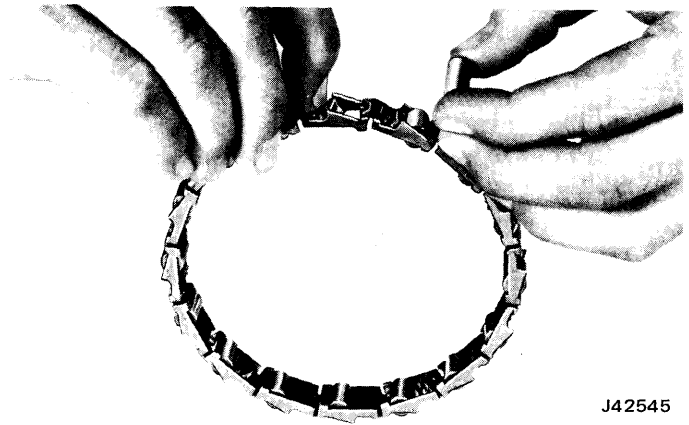

**Fig. 7-123** Roller Clutch Assembly
(16) Install clutch rollers in roller cage by compressing energizing spring with forefinger and inserting rollers from center-outer side of cage (fig. 7-123 and 7-124).